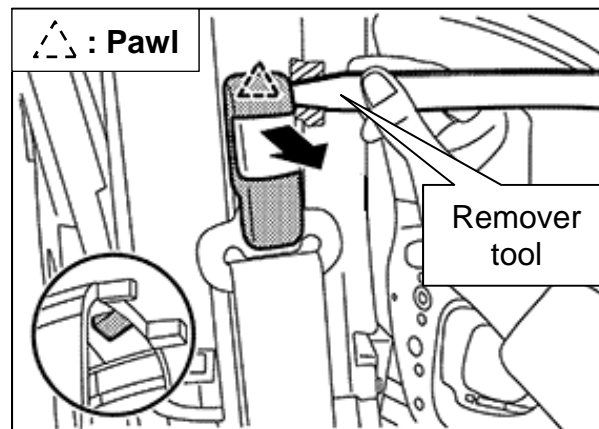

Figure 19
- c. Using a remover tool, disengage the one (1) shoulder belt adjuster cover fixing pawl, as indicated by the arrow shown in Figure 19, and then remove the adjuster cover.